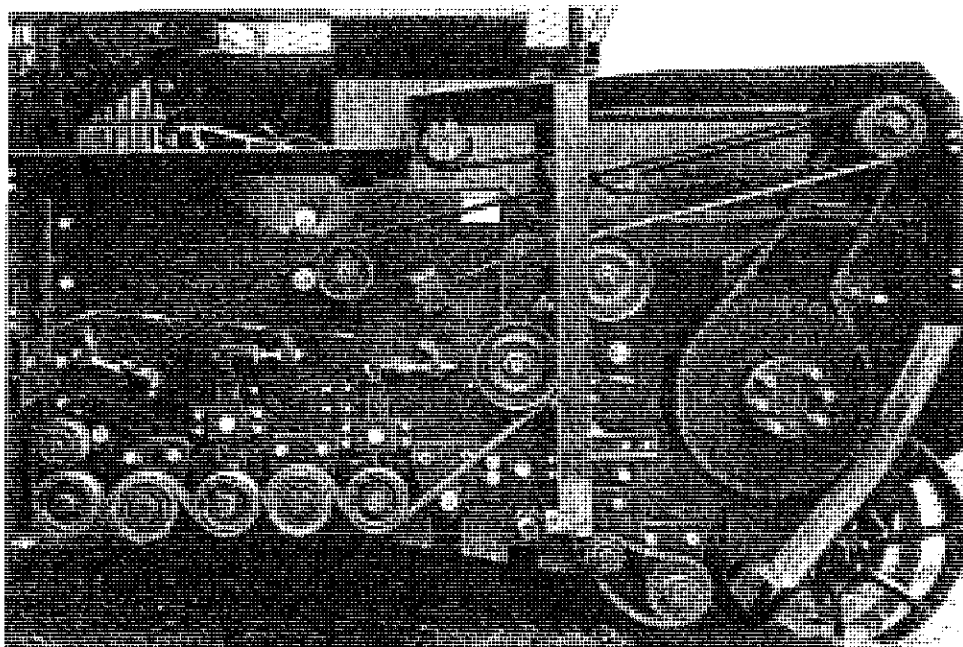

Figure 27. Right-Hand Drive Mechanism (Shields Removed For Clarity)
- A 4-band V-belt drives the rollers on the right side of the harvester (Figure 27).